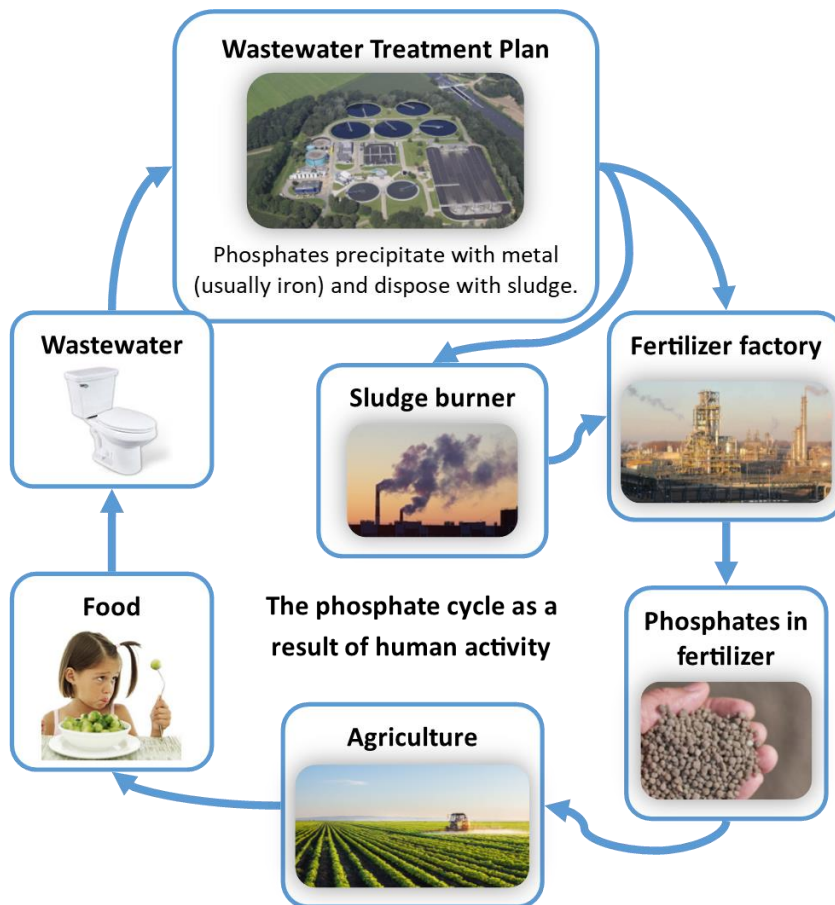

Figure 1, The phosphate cycle as a result of human activity.
Phosphate is now partly recovered in the Netherlands by wastewater treatment plants (Figure 1).
2. *What step in the wastewater treatment process is not logical when you look at the nitrogen and phosphorus cycle in Figure 1 and 4?* The wastewater treatment plant discharges phosphate compounds (mainly from urine) with sludge to the incinerator. In the wastewater treatment plant urea is converted via nitrate into nitrogen. Nitrogen is a raw material for the fertilizer industry. Here they transfer nitrogen back into a nitrate compound.